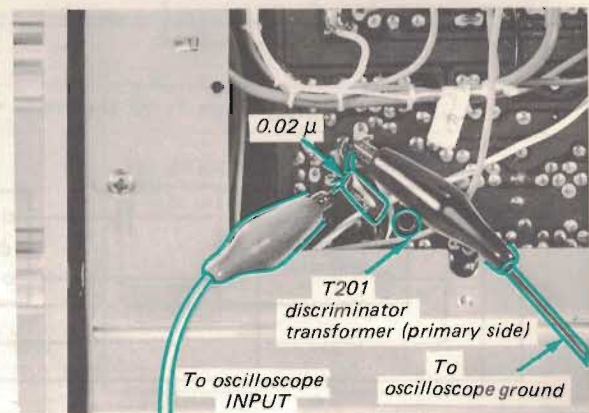
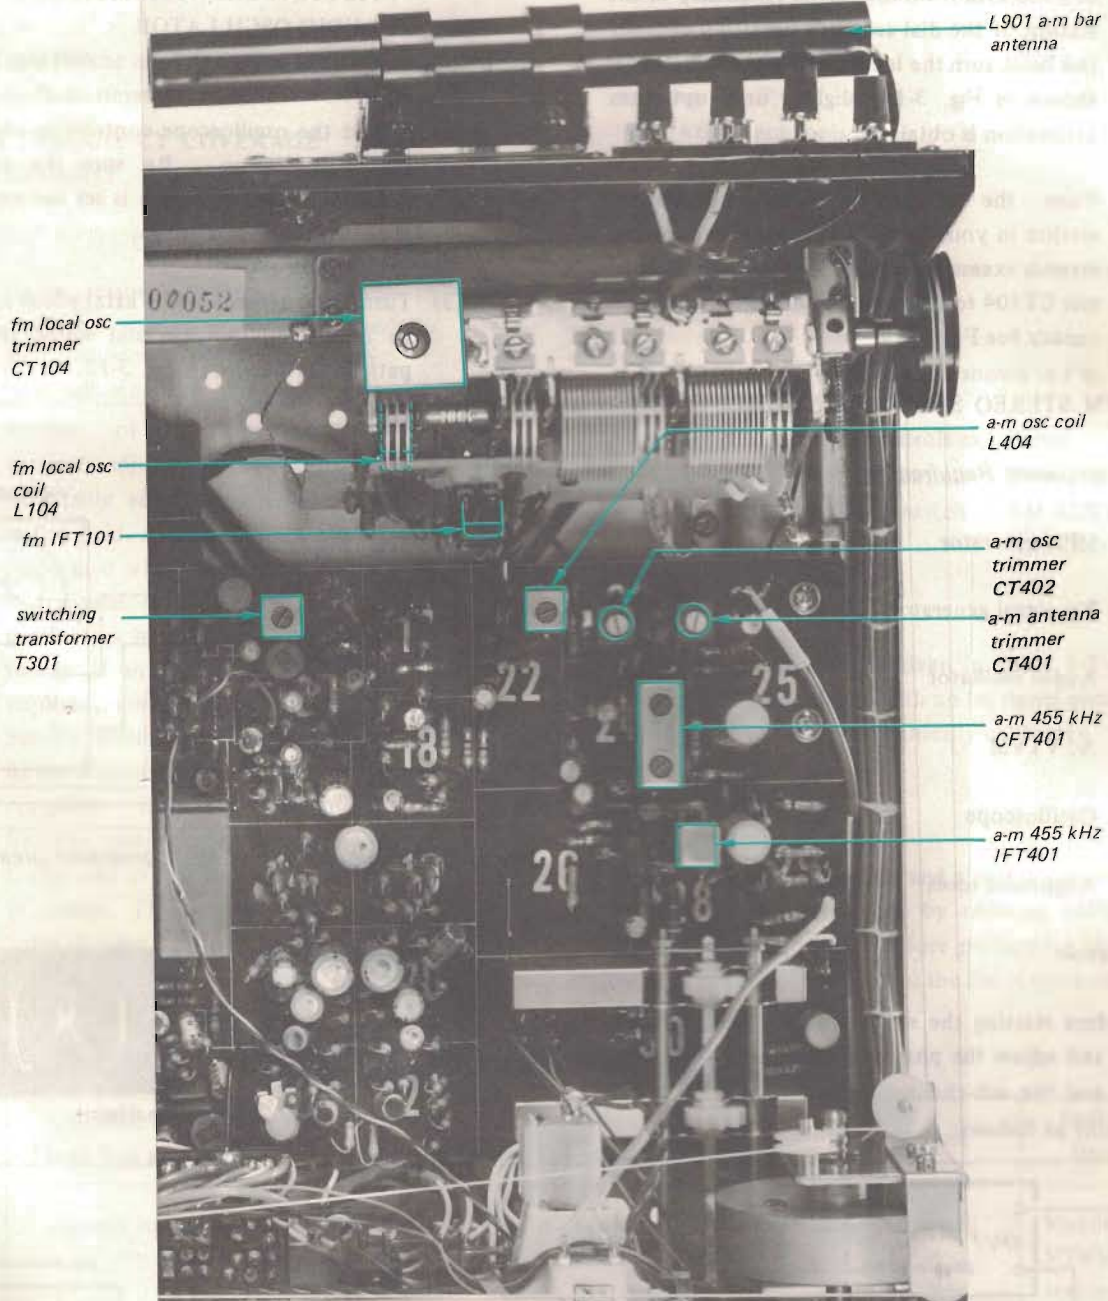

Fig. 3-3 Fm discriminator output connection
Fig. 3-14 Parts location
2. Solder a  $0.02\mu\text{F}$  capacitor across C215, and then connect the input cable of the oscilloscope with alligator clips to it as shown in Fig. 3-3.
5. Adjust i-f transformer IFT101 (See Fig. 3-14) and the primary side of discriminator transformer (T201 bottom core, See Fig. 3-3) to obtain a maximum-amplitude "S" curve response.
7. Turn the core of fm IFT 101 and bottom core of T201 (See Fig. 3-3 and Fig. 3-14), to obtain the maximum output.
2. Check the dial scale for a calibration accuracy of  $\pm 300$  kHz from the carrier frequency of the station. If the dial-accuracy deviation exceeds this limit, turn the local-oscillator coil L104 (as shown in Fig. 3-14) slightly until optimum calibration is obtained.
3. Tune the set to the highest-frequency station in your locality. If the dial-calibration error is excessive, adjust local-oscillator trimmer CT104 to obtain maximum calibration accuracy. See Fig. 3-14.
2. Precisely tune the set to the SSG's carrier frequency, then turn the top core of switching transformer T301 to obtain maximum output at the left channel. See Fig. 3-14. Note that this adjustment has a close relationship with stereo distortion.
1. Tune the receiver to the lowest-frequency station in your locality. If the dial-calibration error is excessive, turn the local oscillator-coil L404 (see Fig. 3-14) slightly until optimum dial calibration is obtained.
2. Tune the receiver to the highest-frequency station in your locality. If the dial-calibration error is excessive, adjust local-oscillator trimmer-capacitor CT404 (see Fig. 3-14) to obtain maximum calibration accuracy.
1. Tune the set to the station whose carrier frequency is closest to 620 kHz and adjust the position of antenna coil L402 as shown in Fig. 3-14 to obtain maximum output.
2. Tune the set to the station whose carrier frequency is closest to 1,400 kHz and adjust antenna trimmer CT402 to obtain maximum output. See Fig. 3-14.